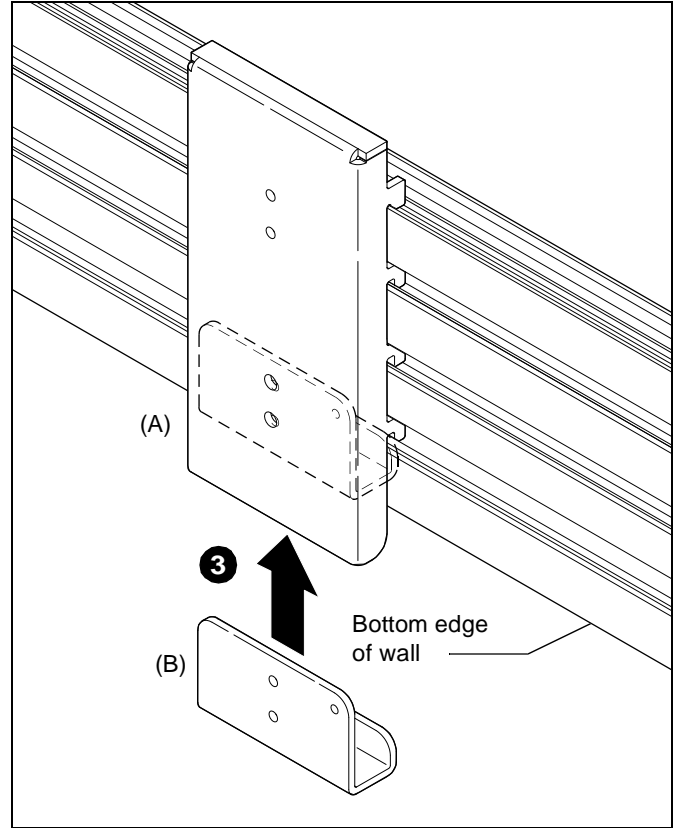
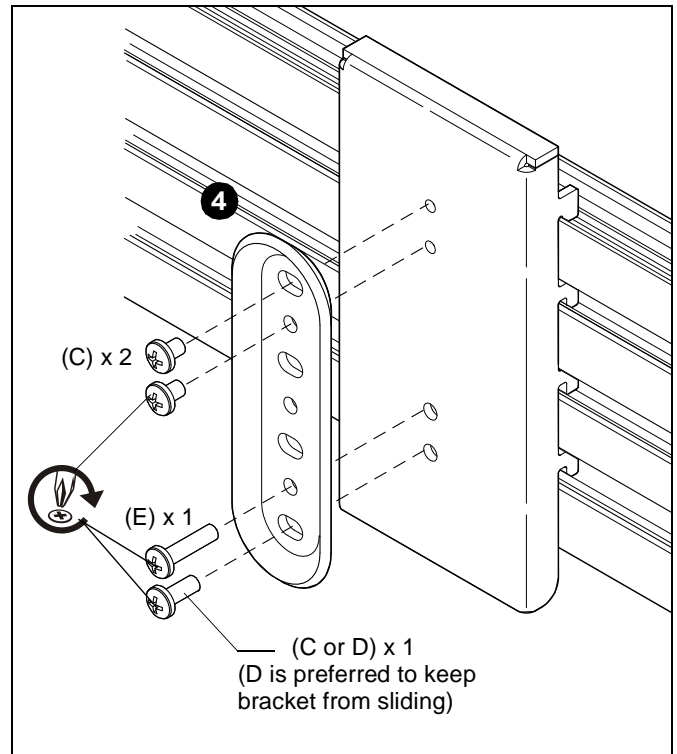

Figure 2
Figure 3
2. Orient wall bracket (A) (Tabs facing DOWN) as shown in figure 2 at right, and install tabs on wall bracket (A) into slots in wall by sliding bracket forward until tabs are in slots and lowering bracket until tabs are fully seated in slots. (See Figure 3)
3. Orient *Lower* wall bracket (B), as shown in figure 2 at right, and install by sliding bracket upwards until wall is seated in bracket.
4. Secure mount wall bracket (included with mount) to wall bracket (B) and *Lower* wall bracket (A) using a Phillips screw driver and two 10-24 x 1/2", one 10-24 x 5/8", and one 10-24 x 3/4" Phillips pan head screws (C). (See Figure 3)